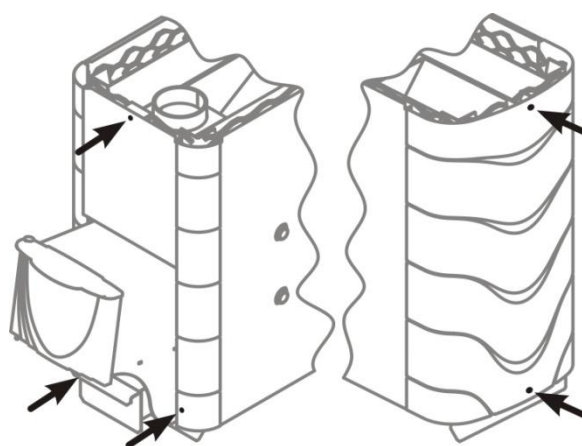

Figure 10. «Tunguska» sauna stove convector disassembling
2. Remove the convector by unscrewing 5 self-drilling screws (fig. 10);